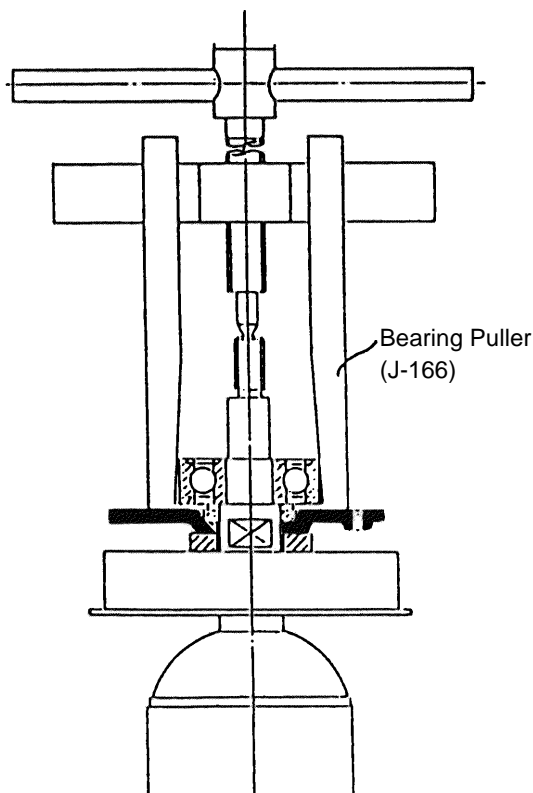

Fig. 1
(4) After removing the three M5 x 14 Machine Screws (1), the Armature (16) can be extracted together with the Bearing Cover (14), and related parts.
(5) Carefully wrap the Armature Ass'y (16) with a soft, clean rag to protect it from being damaged, and clamp it securely in a vise. Then, remove the M8 U-Nut (7), and extract the Pinion (8) and the Key (15).
(6) For the models indicated under Fig. 1, the Ball Bearing (11) can be removed from the Armature (16) by utilizing a J-166 Bearing Puller (special repair tool Code No. 970-947) as illustrated. After the Ball Bearing has been removed, the Bearing Cover (14) can be easily taken off.